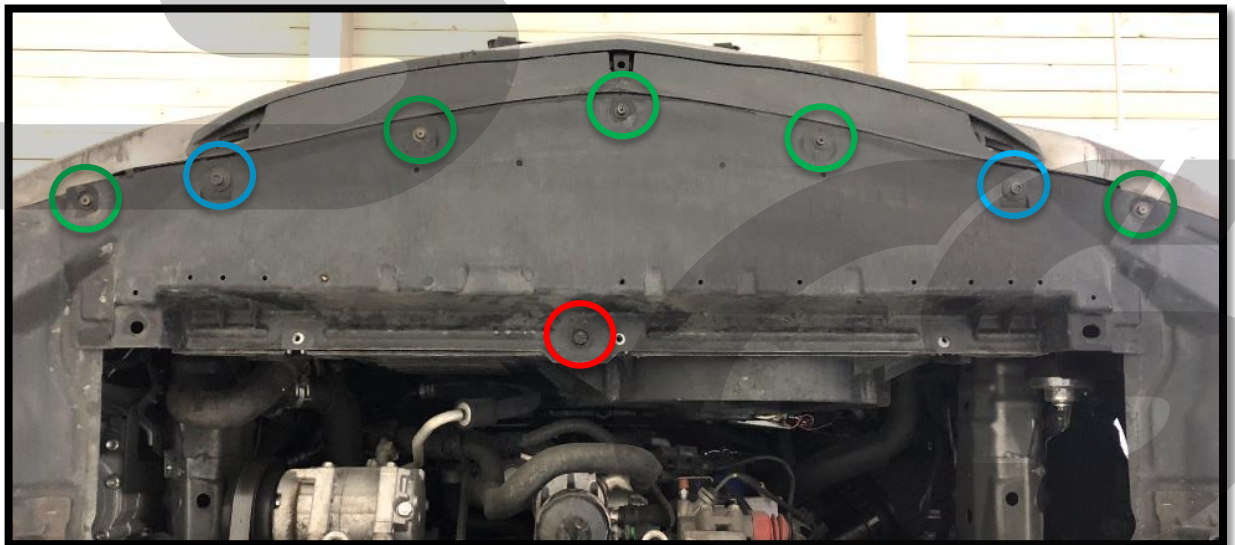

Figure 1c
- h) Remove one (1) push clip from the front section of the OEM splash shield using a flathead screwdriver or push clip removal tool. Shown **circled in red** in **Figure 1c**.
- i) Remove two (2) 10mm bolts from the front section of the OEM splash shield using a 10mm socket & ratchet. Shown **circled in blue** in **Figure 1c**.
- j) Remove five (5) 8mm bolts from the front section of the OEM splash shield using an 8mm socket & ratchet. Shown **circled in green** in **Figure 1c**.